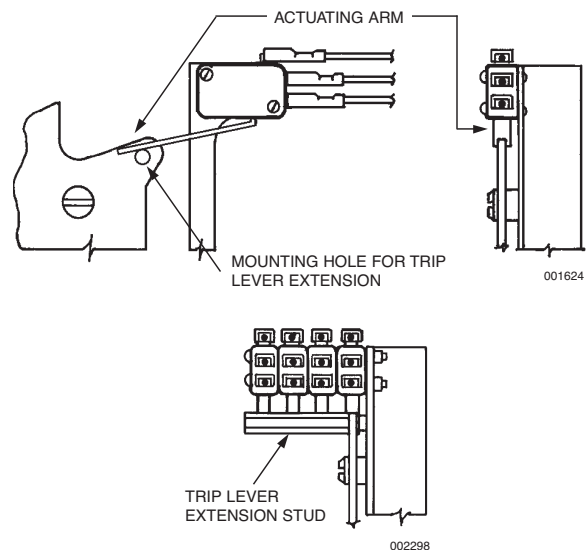

FIGURE 67
5. If more than one switch is being installed, it is necessary to attach the trip lever extension stud to the trip lever. See Figure 67. Using the provided fasteners, securely install the extension stud.
6. Raise switch actuating arm squarely over the cam surface of the trip lever. This will allow the trip lever, when actuated, to force the actuating arm “UP,” thus reversing the normal condition of the switch. See Figure 67.